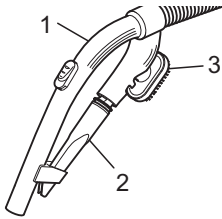

Fig.5
■ The crevice nozzle and the 2-in-1 combi-nozzle are included as **accessories** in the scope of delivery. They can be secured to the accessories mount (Fig. 5/1).
- **Crevice nozzle (Fig. 5/2)**
- **2-in-1 combi-nozzle (Fig. 5/3) to be used as:**